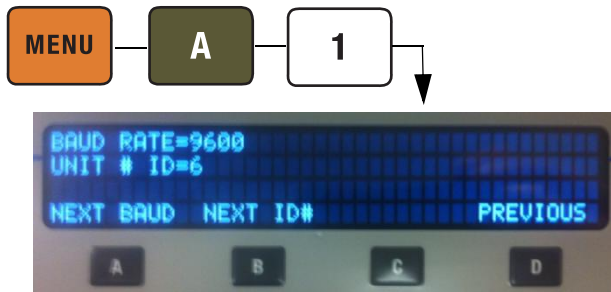

Figure 13: Controller serial values entry screen
8. The Baud Rate and Pump Controller ID should be set to match those in the controller. To check the pump controller settings press MENU, A, 1 to show the serial setting screen (Figure 13). It is recommend to use the 38, 4000 setting for the Baud Rate.